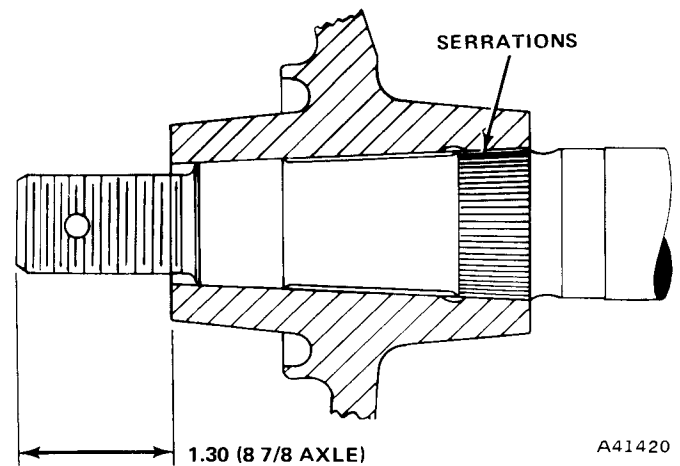

Fig. 10-18 Replacement Hub Installation Measurement (In Inches)
- (1) Align keyway in hub with axle shaft key.
- (2) Slide hub onto axle shaft as far as possible.
- (3) Install two well-lubricated thrust washers and axle shaft nut.
- (4) Install drum, drum retaining screws, and road wheel.
- (5) Lower vehicle onto wheels. Tighten axle shaft nut until distance from hub outer face to axle shaft outer end is 1.30 inches (fig. 10-18).